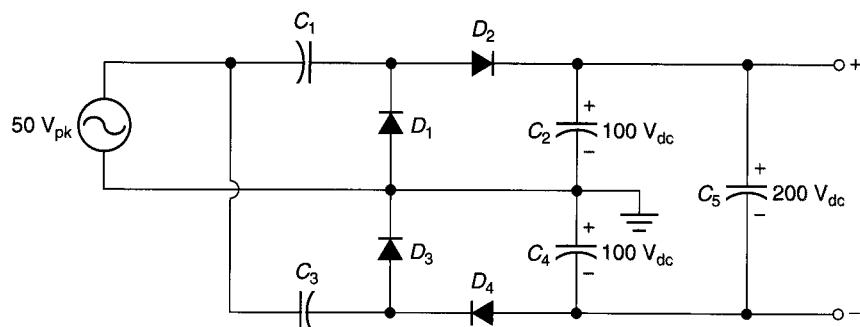

FIGURE 4.49
41. The circuit shown in Figure 4.49 has the capacitor voltages illustrated. Determine whether there is a problem in the circuit. If there is, list the steps you would take to find the faulty component.